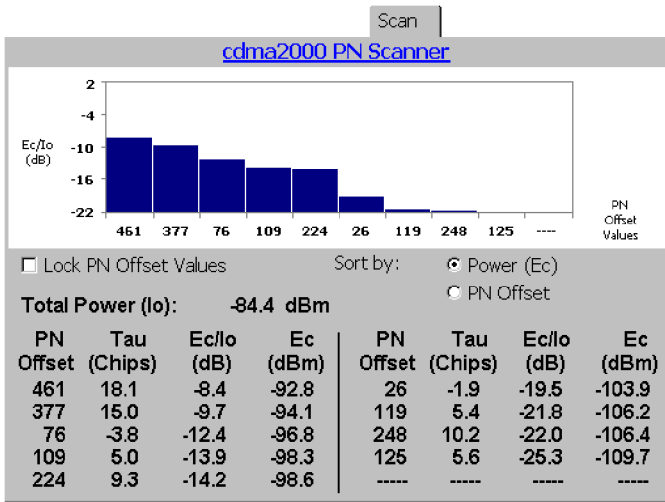

Figure 3-27: A typical cdma2000 PN Scanner display
6. Tap the **Scan** tab. Figure 3-27 shows a typical cdma2000 PN scanner display.